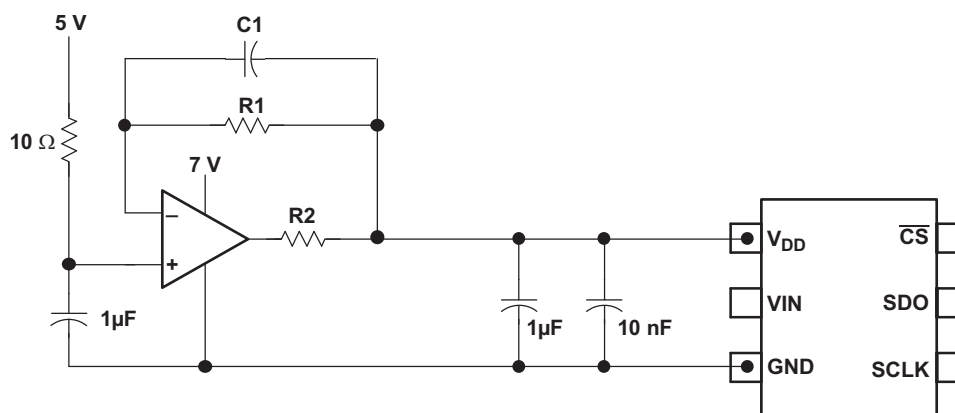

Figure 42. Buffering With the OPA735
- A low-pass filtered version of the system supply followed by a buffer like the zero-drift OPA735 can also be used in cases where the system power supply is noisy. Take care to ensure that the voltage at the V_{DD} input does not exceed 7 V (especially during power up) to avoid damage to the converter. This can be done easily using single-supply CMOS amplifiers like the OPA735. Figure 42 shows one possible application circuit.